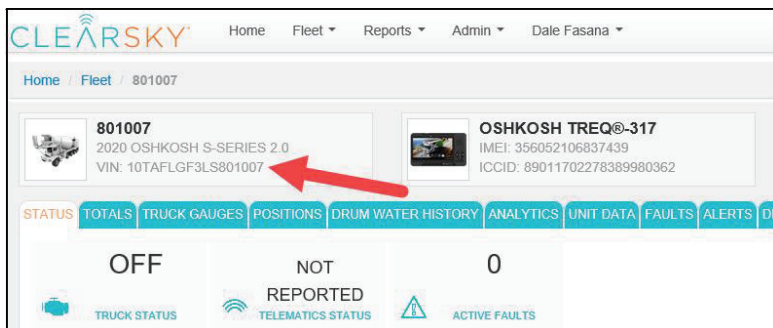

Figure 8
23. Make sure the truck VIN displayed in the information box in the upper left corner of page is correct. See Figure 8.